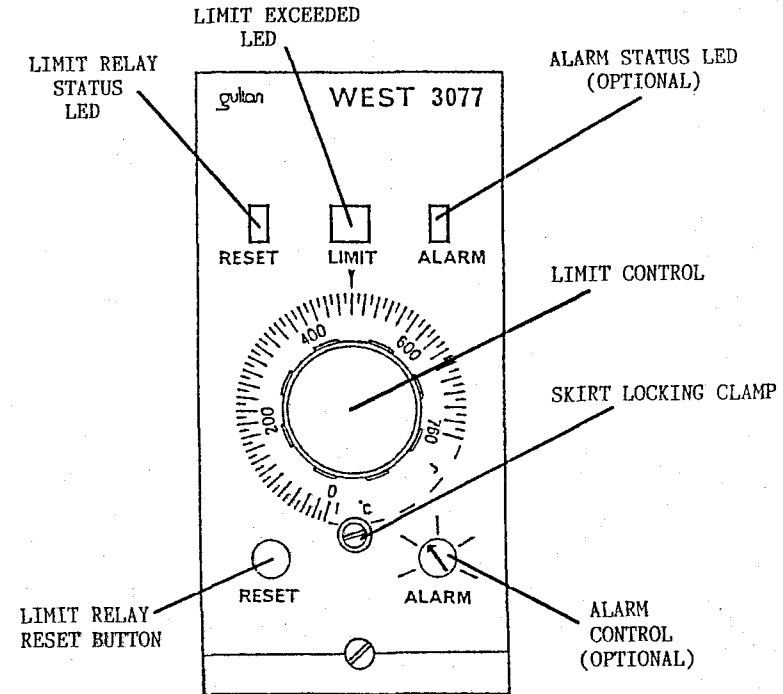

FIGURE 3-1 FRONT PANEL CONTROLS AND INDICATORS
3.2 CONTROLS (Figure 3-1)
3.3 INDICATORS (Figure 3-1)